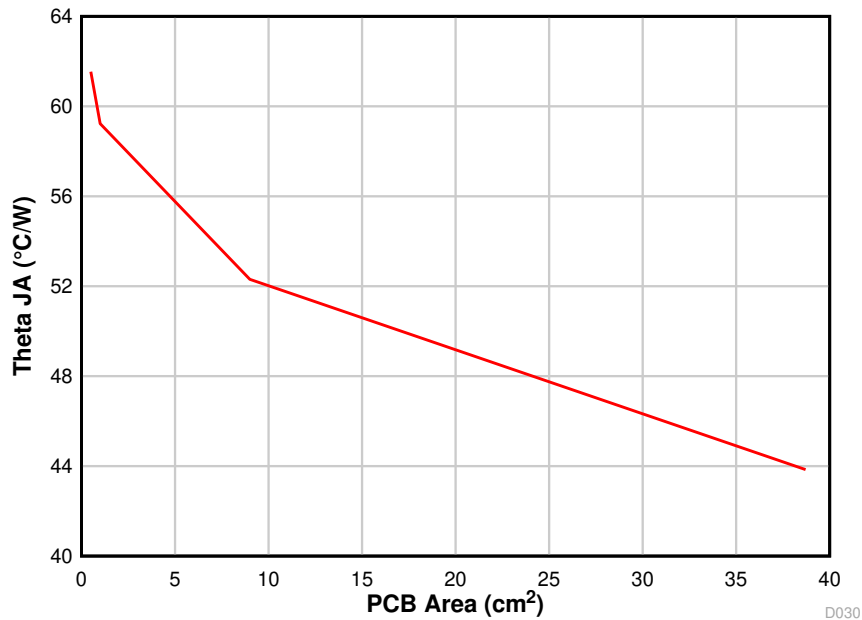

图 10-3.  $\theta_{JA}$  versus PCB Area
The amount of PCB copper affects the thermal performance of the device. 图 10-3 shows the effects of copper area on the junction-to-ambient thermal resistance ( $R_{\theta JA}$ ) of the TPSM265R1. The junction-to-ambient thermal resistance is plotted for a 4-layer PCB with an area from 0.5 cm2 to 39 cm2.
3. Reference 图 10-3 to determine the minimum required PCB area for the application conditions.